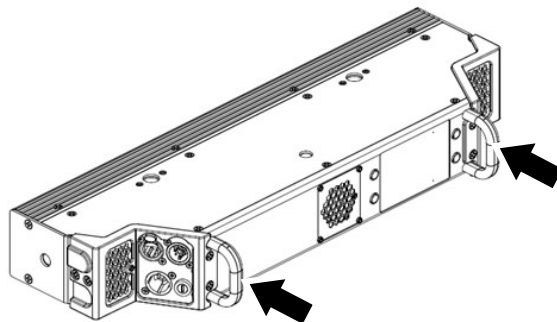

Figure 3. Use handles for safety cable attachment
2. See Figure 3. Loop the cable around one of the fixture's handles. Take up as much slack as possible in the cable (by looping it more than once around the truss chord, for example), then close the cable so that it will catch the fixture if the rigging hardware fails.